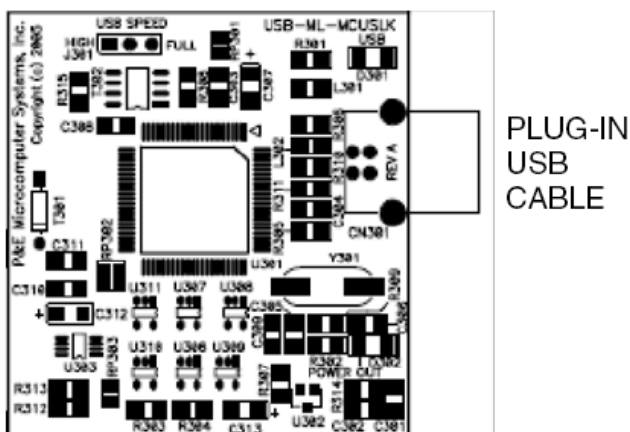

Figure 4. Installation of USB Cable
3) Connect the other end of the USB cable to the USB connector on the project board. Figure 4 illustrates the USB connector on the project board for the BDM Multilink pod interface to power, program, erase, and debug the application module board.